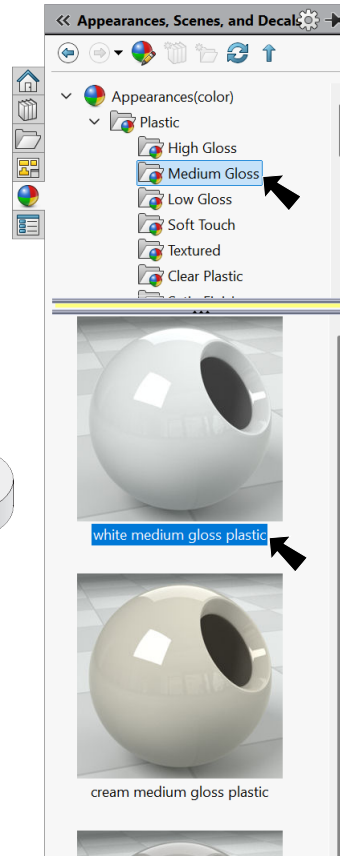

Fig. 31
Step 2. In the Appearances Task pane, expand **Plastic**, click **Medium Gloss** and in the lower pane select **white medium gloss plastic**, Fig. 31.